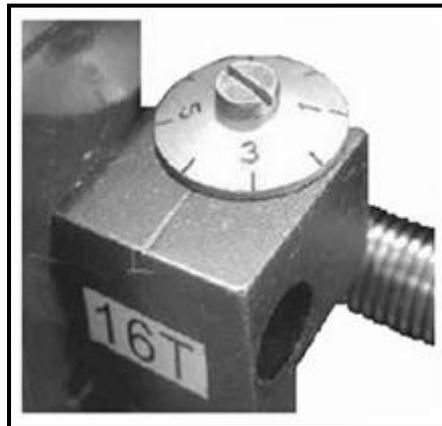

FIGURE 4.1
4.1 Identify the lathe component shown in FIGURE 4.1.